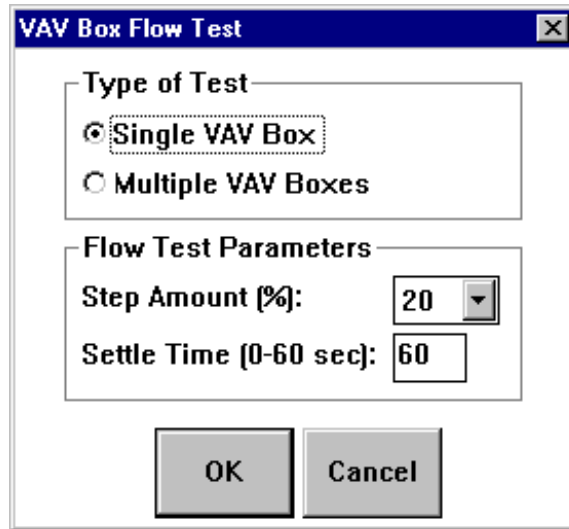

Figure 17-17: VAV Box Flow Test Window
1. On the Action menu, click VAV Box Flow Test. The VAV Box Flow Test dialog box appears (Figure 17-17).